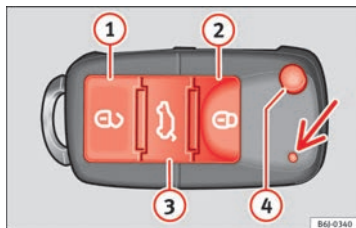

Fig. 49 Assignment of buttons on the remote control key.
By using button ④ ⇒ Fig. 49 on the control, the key shaft is released.
Unlocking the vehicle ① ⇒ Fig. 49 ①.
Locking the vehicle ② ⇒ Fig. 49 ②.
Unlocking the rear lid. Press button ③ ⇒ Fig. 49 ③ until all the turn signals on the vehicle flash briefly. When the unlocking button ③ is pressed, you have 2 minutes to open the door. Once this time has passed, it will lock again.
Moreover, the battery indicator on the key ⇒ Fig. 49 (arrow), will flash.
- Press the  button  ⇒ Fig. 49 on the remote control.